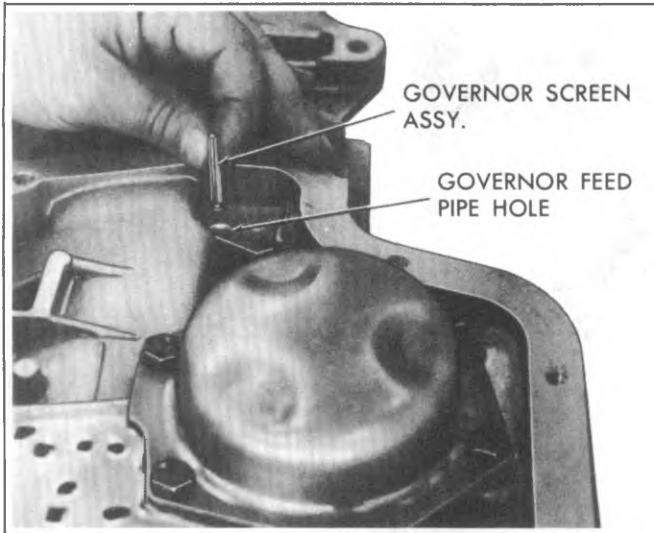

Fig. 7A-50--Governor Screen Position
5. Remove the governor screen assembly from end of governor feed pipe or from the governor feed pipe hole in the case (Fig. 7A-50). Clean governor screen in clean solvent and air dry.